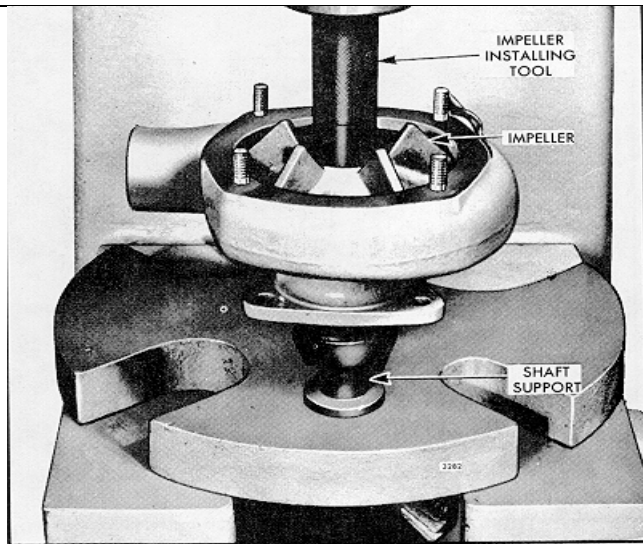

Fig. 7 - Installing Water Pump Impeller
6. Support the bearing end of the shaft (not the driven coupling) on the bed of an arbor press. Then press the impeller on the shaft. On current engines the end of the shaft must be flush with the face of the impeller hub with the bearing being held against the shoulder in the water pump body. On former engines which have the end of the shaft tapered, use impeller installer J 21971 (Fig. 7), to press the impeller on the shaft until the distance from the face of the pump body to the face of the impeller hub is .052"-.072", with the bearing being held against the shoulder in the water pump body.